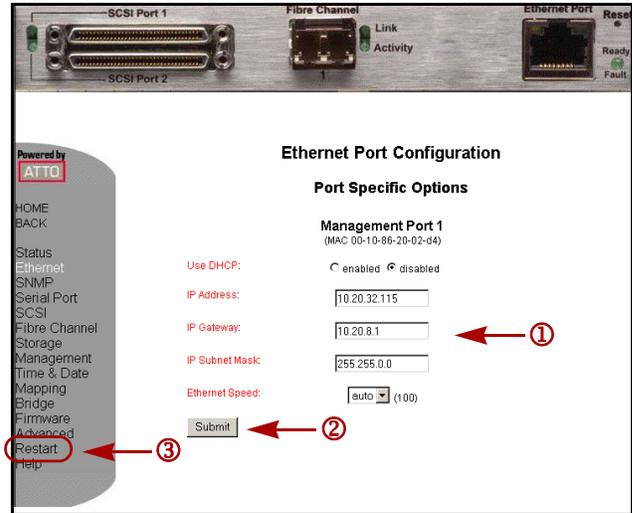

Figure 6. FCO3 Ethernet Screen
- At the Ethernet screen (Figure 6), in the second data field, enter the IP address for the **Gateway** (1), and click **Submit** (2).